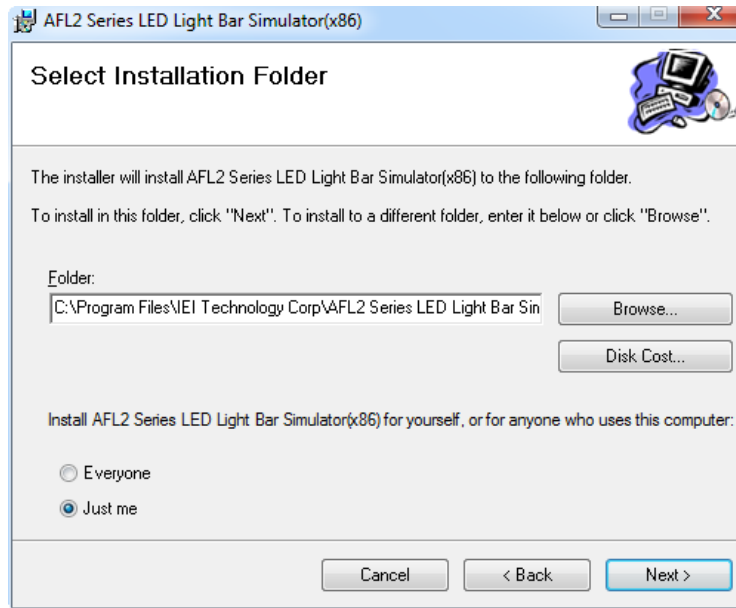

Figure 2-2: Select Installation Folder Screen
- Step 5:** The **Select Installation Folder** screen in **Figure 2-2** appears.